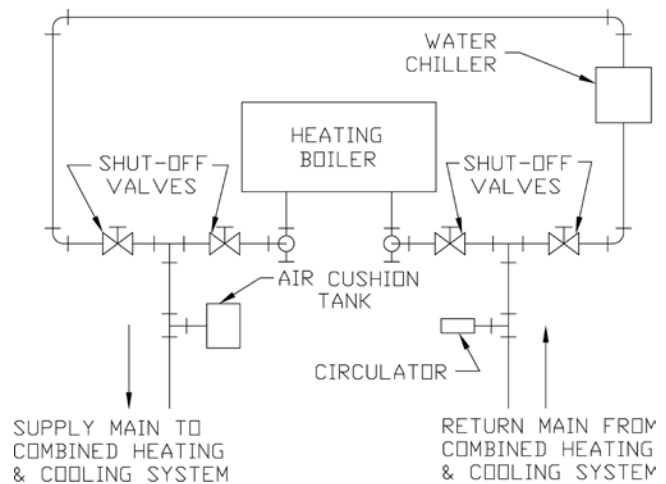

Figure 4: Recommended Piping for Combination Heating and Cooling (Refrigeration) System
- a. If this boiler is used in connection with refrigeration systems, the boiler must be installed so that the chilled medium is piped in parallel with the heating boiler using appropriate valves to prevent the chilled medium from entering the boiler. See Figure 4. Also, consult I=B=R, "Residential Hydronic Heating Installation and Design Guide".